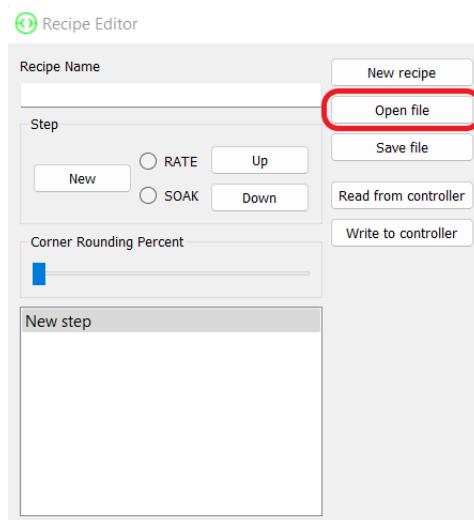

Figure 87: Recipe Editor – 'Open file' button
1. Open the 'Recipe Editor' and click the 'Open file' button highlighted in Figure 87 below. This will open the 'File Explorer' window.